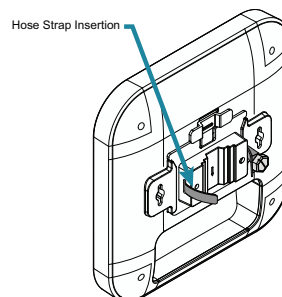

Figure 6. Attach the Pole Mounting Bracket for Vertical Mounting
1. Once the pole mounting bracket is attached to the BSAP, thread the hose strap through the two slots on the pole mount bracket as shown in Figure 6.